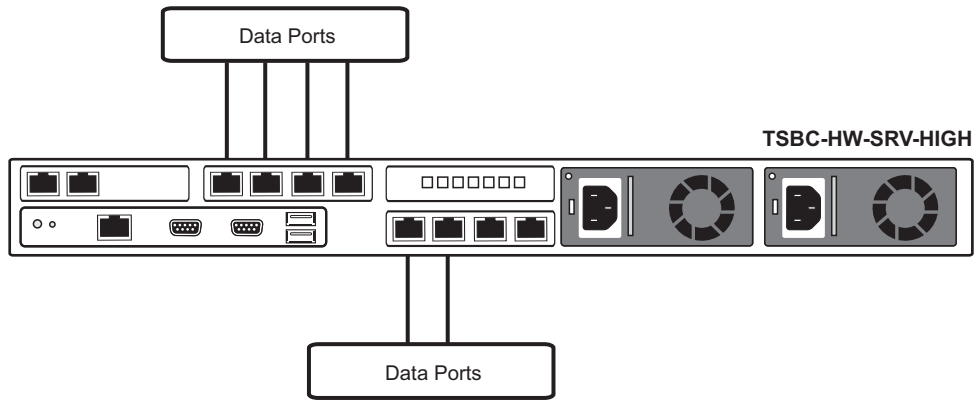

Figure 3.3 TSBC-HW-SRV-HIGH: Connecting to the Data Network
- To connect the TSBC-HW-SRV-HIGH to the data network, refer to Figure 3.3 on page 19.